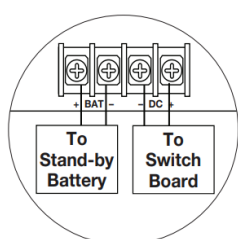

Fig. 3
5. Battery Backup (if desired): Connect one (1) 12V LiFePO4 (Lithium Iron Phosphate) battery to terminals marked [+ BAT –] (Fig. 3, pg. 4), carefully observing polarity. Use Altronix BTL125 12V/4.5AH Lithium Iron Phosphate battery.